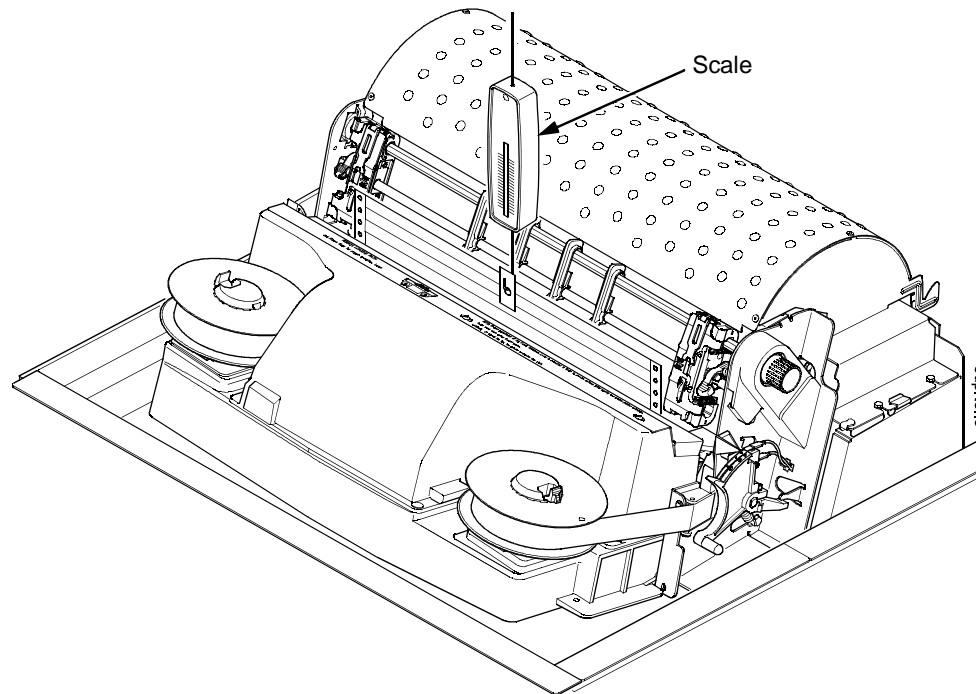

Figure 41. This figure shows how to use the "fish scale" to measure paper tension.
7. Attach the hook of a "fish scale" force gauge through the tape you installed in step 5. (See Figure 41.)
8. Pull the paper slowly straight up through the print station for about six inches and note the maximum force exerted on the scale. Do not pull any page perforations through the print station. (See Figure 41.)